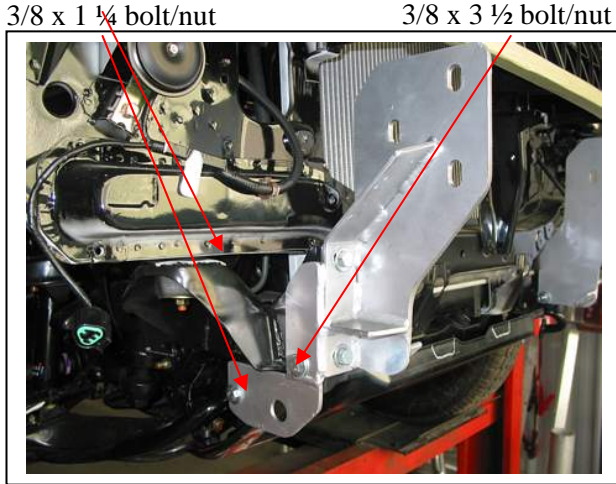

Figure 1 - Drivers side shown
4. Install ECB steel mounting brackets to chassis. **See figure 1 and 2.** Use M10 x 35 x 1.25 HT bolts/washers (supplied) for front captive chassis nuts. **FINGER TIGHTEN ONLY.** Use 3/8 x 1 ¼ bolts/nuts/washers (supplied) for drivers side lower bracket. **FINGER TIGHTEN ONLY.** Use 3/8 x 3 ½ bolts/nuts (supplied) for chassis holes.